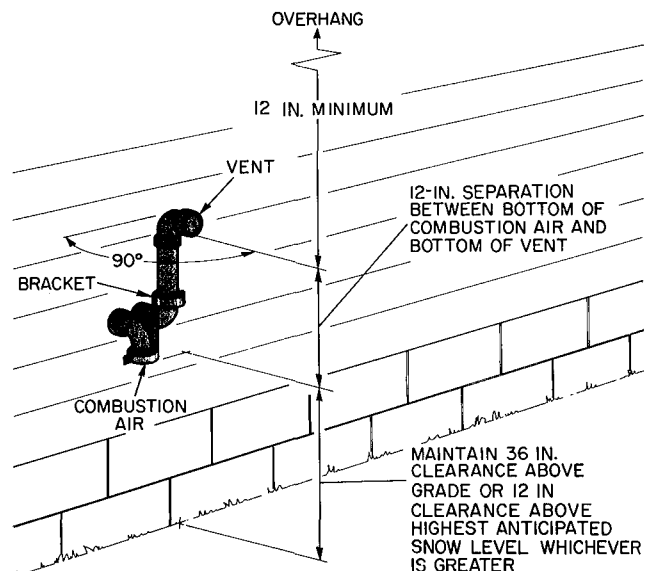
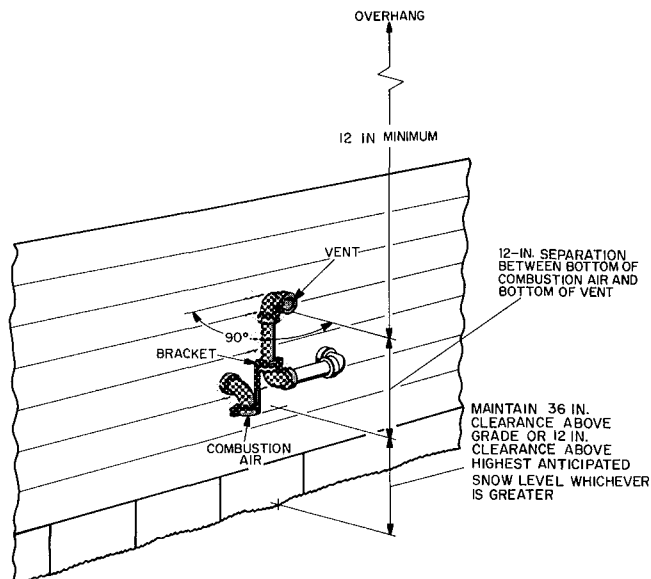

Fig. 2 — Sidewall Vent Termination Above Snow Level or Grade (Preferred)
Fig. 3 — Sidewall Vent Termination Above Snow Level or Grade (Option)
Install kit as follows when combustion-air and vent pipes exit through sidewall above snow level or grade. (Fig. 2 and 3).
NOTE: The arrangement in Fig. 2 is preferred. The arrangement in Fig. 3 is an option for the vent pipe only.
3. Install elbows as shown in Fig. 2 or 3. Clean them and apply cement using procedures described in Combustion-Air and Vent Piping.
4. Install bracket as shown in Fig. 2 or 3.
5. Position vent-pipe assembly, maintaining a 12-in. separation. Cement vent pipe in elbow as shown in Fig. 2 or 3.
6. For applications using vent-pipe option (indicated in Fig. 3), rotate vent elbow 90 degrees from position shown in Fig. 2.